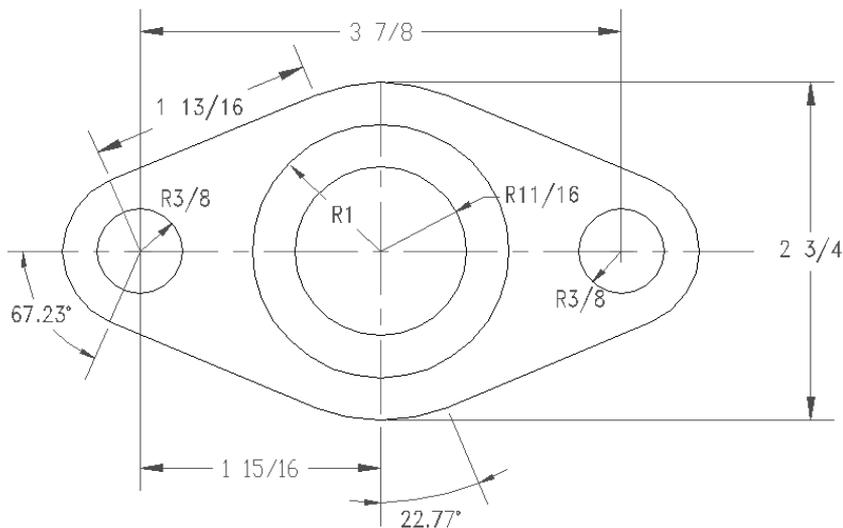

Figure 7-5: The dimensioned sealing plate for a valve.
2. Save the file as `ab07-02.dwg` in your `AutoCAD Bible` folder. `ORTHO` is on and units are set to `Fractional`. Choose `Tools` ⇨ `Drafting Settings` (clicking the `Object Snap` tab, if necessary) and set running object snaps for `intersection`, `center`, and `endpoint`. Make sure `OSNAP` is on. In this exercise, you draw part of the sealing plate shown in Figure 7-5.